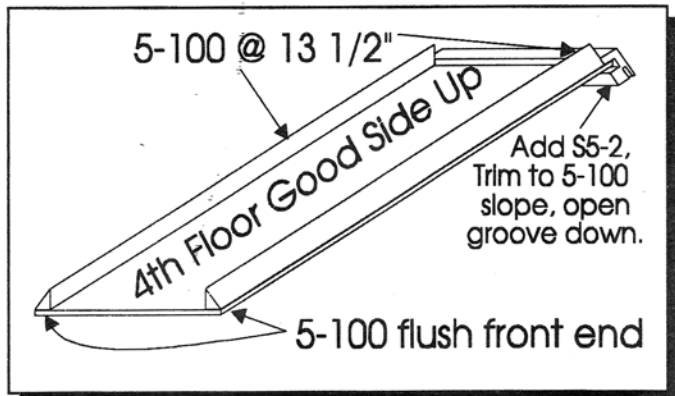

Figure 12
6. Gather the 4th Floor (SF Sheet 7), S5-2 and from the "LPL" the two 13 1/2" 5-100 moldings. Glue the 5-100s to the the longest edges of the 4th Floor as shown in Figure 12. Add S5-2 to the back edge of the 4th Floor and trim flush with the angle of the 5-100.